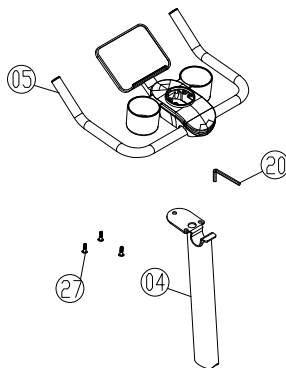

Figure 5
5. Mount the Display Stand Assembly (Part 05) onto the Upright Tube Assembly (Part 04). Secure the two assemblies with three M8×12 cylindrical head screws (Part 27), then tighten the screws using the 6 mm hex wrench (Part 28), as shown in Figure 5.